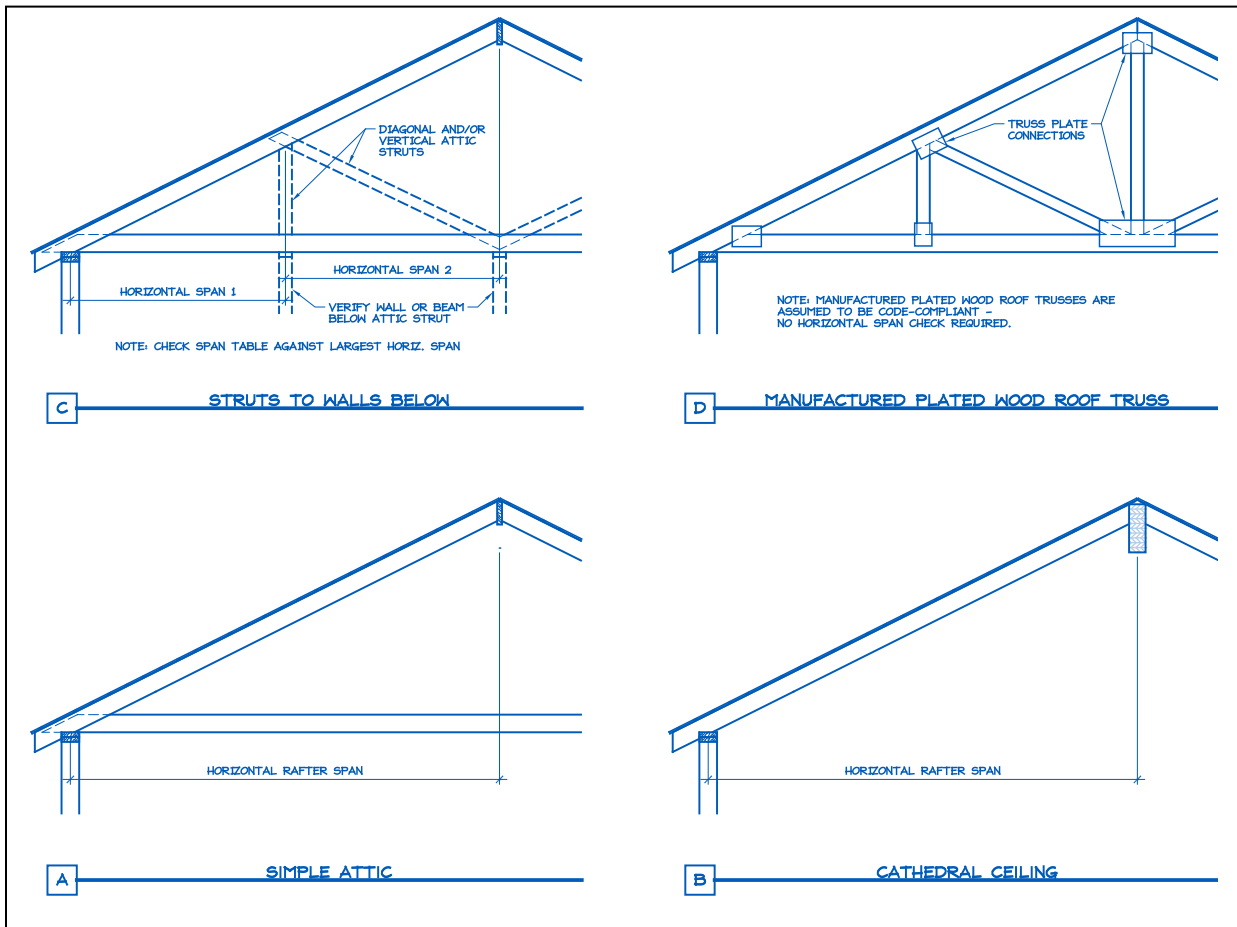

Figure 4. Definition of Rafter Horizontal Span
- 5. Measured rafter horizontal span (see Figure 4) _____' - _____" (ft./in.)
1. See Figure 4 for definition of roof rafter maximum horizontal span.